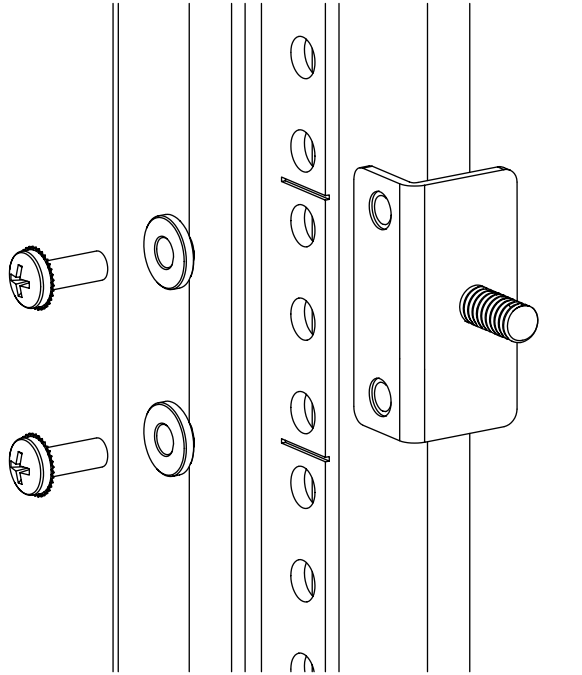

Figure 2: Installing the Rear Mounting Brackets (HP System/e Rack-Left Rear Upright)
- For an HP System/e rack, install each of the two rear mounting brackets with two #10-32 x 1/2-inch Phillips pan-head screws and two #10 alignment washers as shown in Figure 2.